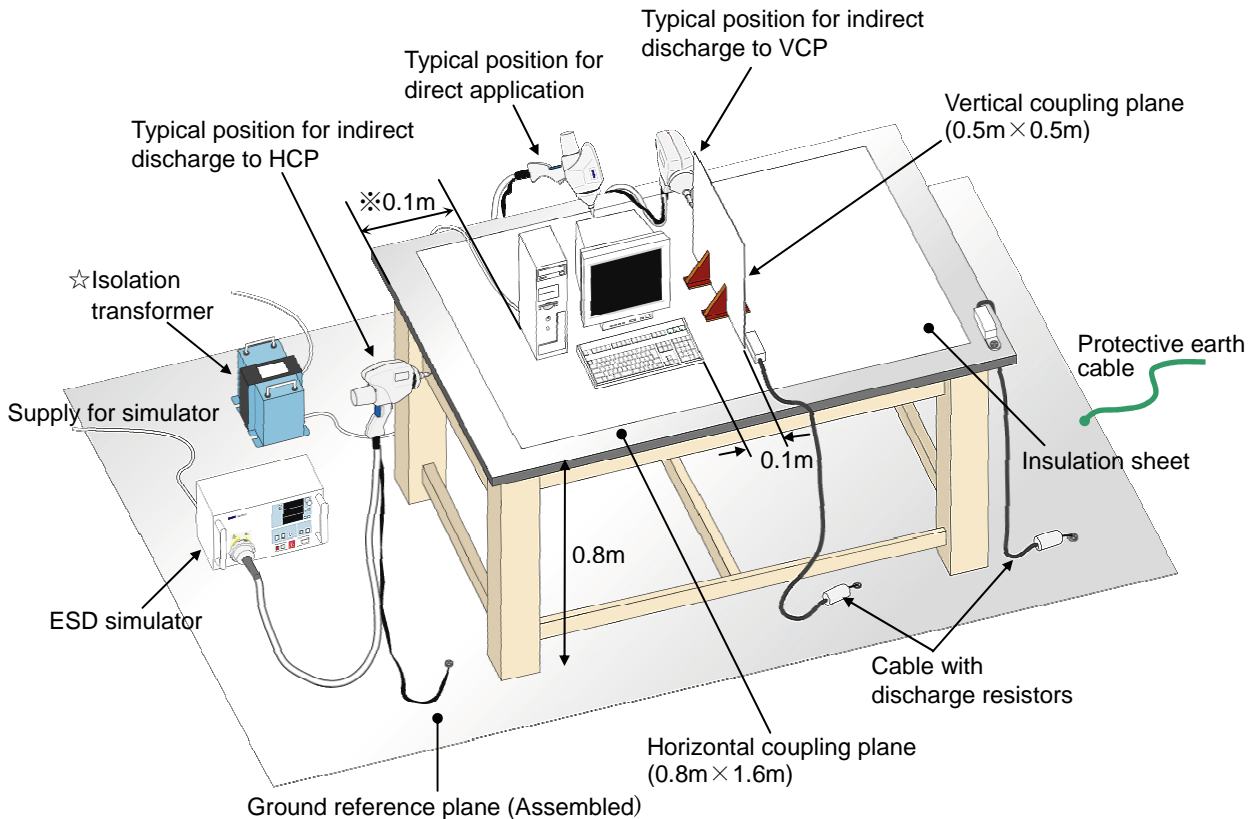

Fig 1. Example of test configuration
***Notice: In the Fig1. EUT is put on the position more than 0.1m away from the edge just to make the figure more understandable.